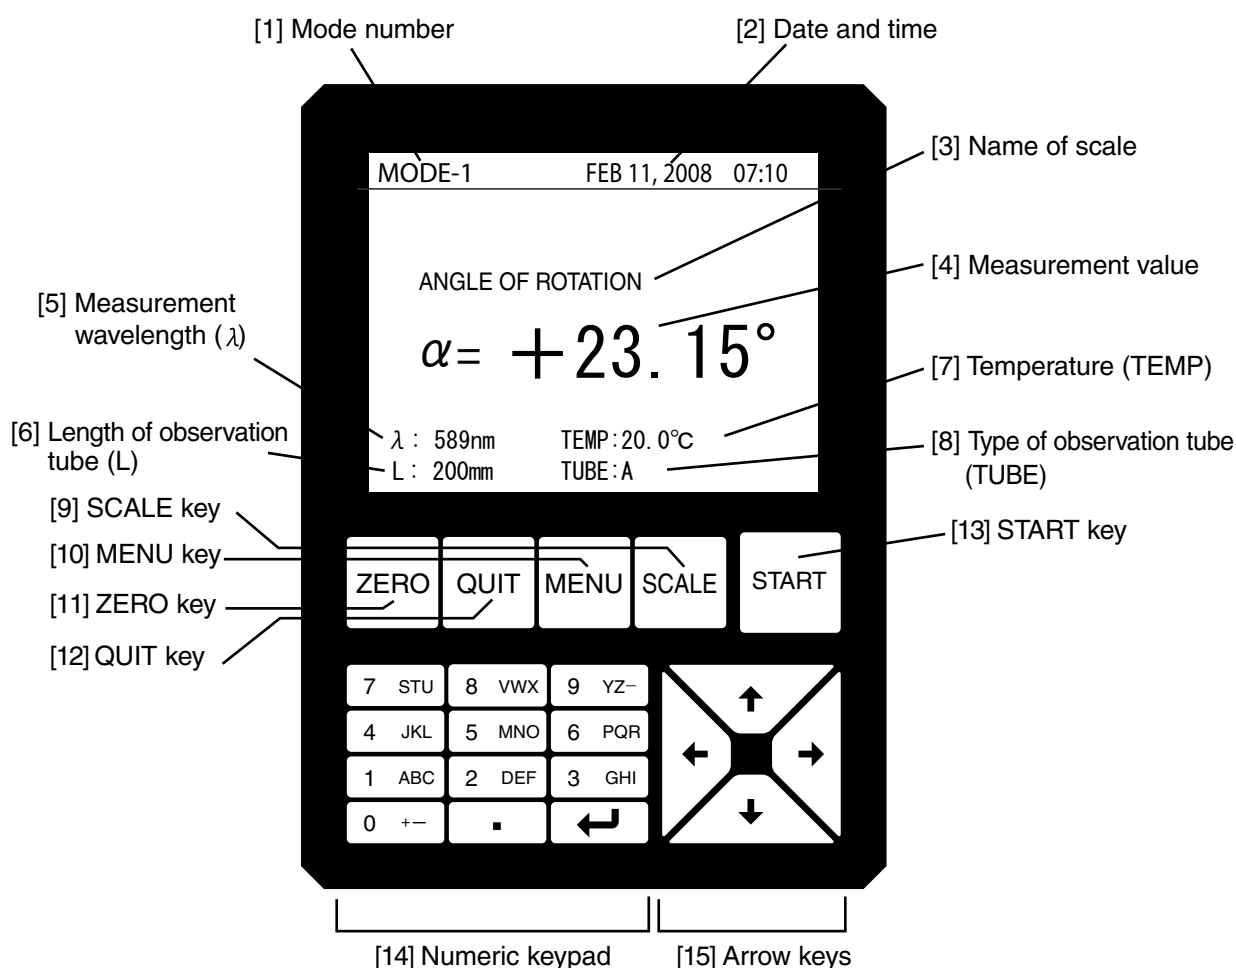

Fig.3-4
(3)-1 Standard Display of a Measurement Value for the Angle of Rotation (Fig.3-4)